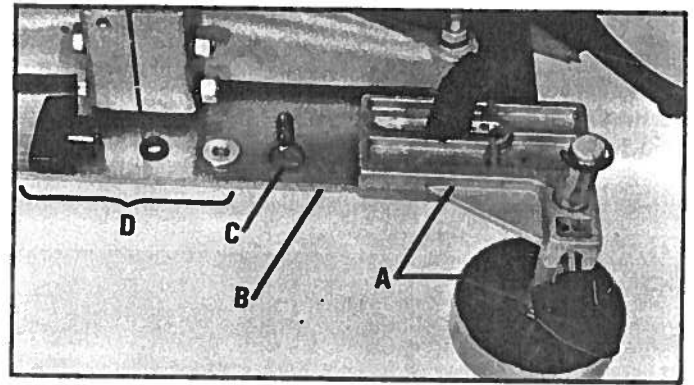

Fig. 2
1. Assemble the front guide bracket (A) to the platen (B) as shown in Fig. 2, by inserting carriage bolt (C) up through the platen and bracket and securing with a flat washer, lockwasher and knob (D). NOTE: WHEEL MUST BE TO THE OUTSIDE AS SHOWN.